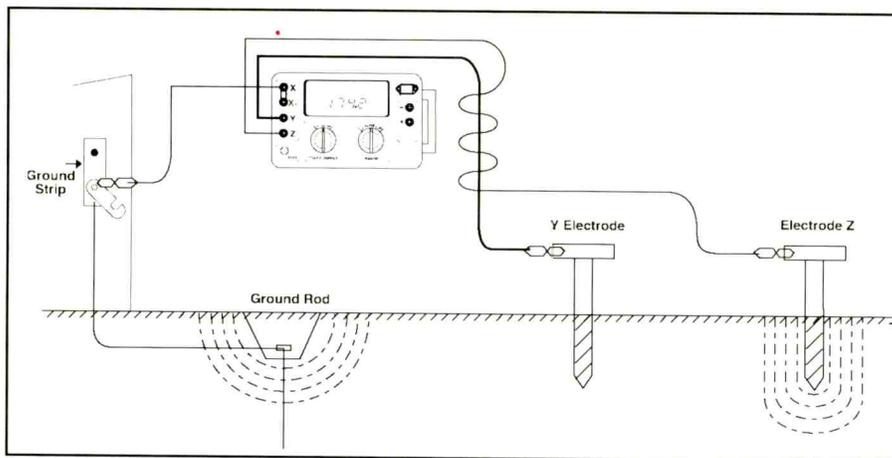

Figure 23.
A) Braid the auxiliary cables together. This often has the effect of canceling out the common mode voltages between these two conductors (Figure 23).